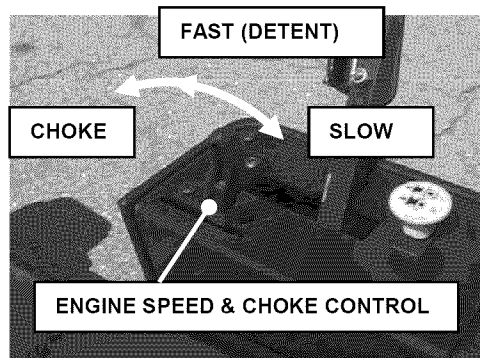

FIGURE 1.3
6. Move engine speed control fully forward to 'Choke' position. See Figure 1.3.